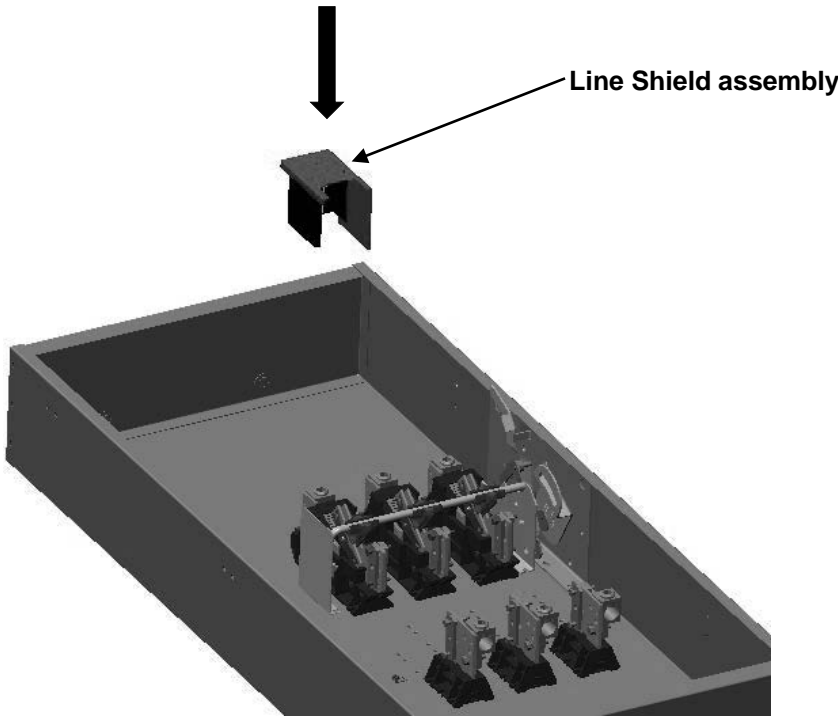

Fig. 2a
3. Install Line shield assembly on the Line base as shown in Fig. 2a & 2b.